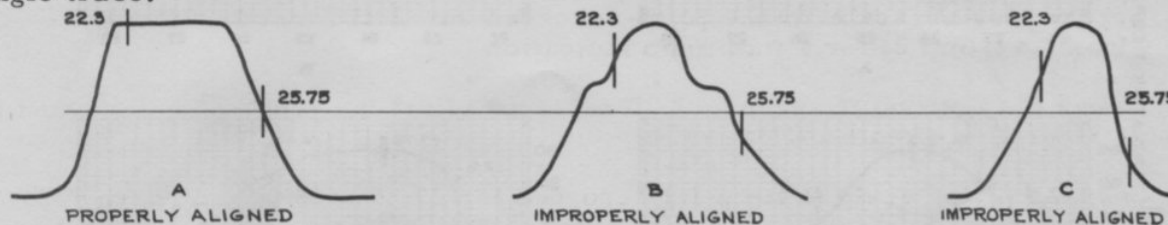

FIG. 8. PICTURE IF RESPONSE - STAGGER TUNED
23. Compare the pattern with the one shown in the manufacturer's instructions. Figure 8 shows an example of an i-f response curve. If the system has been aligned properly, the pattern should resemble figure 8A.
24. Turn the SIGNAL switch to UNMOD. R.F. and set the logging scale of the A. M. Generator to the point for 22.3 mc. A marker should appear on the pattern as shown on the left in figure 8 A, B, and C. Adjust the SIGNAL ATTENUATORS and the F. M. ATTENUATORS for the desired balance of signal strengths. If the marker is too strong, the curve will be distorted and it will be difficult to measure its exact position on the pattern.